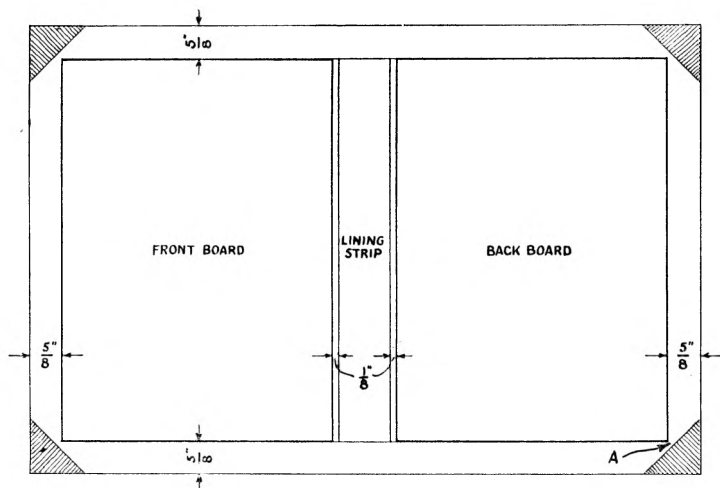

Fig. 71
57. Cut a piece of cloth large enough to cover the book plus an overlap of $\frac{5}{8}$ " all round. Mark on the reverse side of the cloth the position of the boards and the lining strip in pencil as shown in fig. 71. Note that the boards are set $\frac{1}{8}$ " away from the lining strip.
58. Paste the whole of the cloth, place the lining strip in position and then place the boards $\frac{1}{8}$ " away on each side as in fig. 71, and rub well down.
59. Cut off the corners of the cloth at 45 degrees, allowing a little more than the thickness of the board between the cut and the corner of the board, as shown at A in fig. 71.